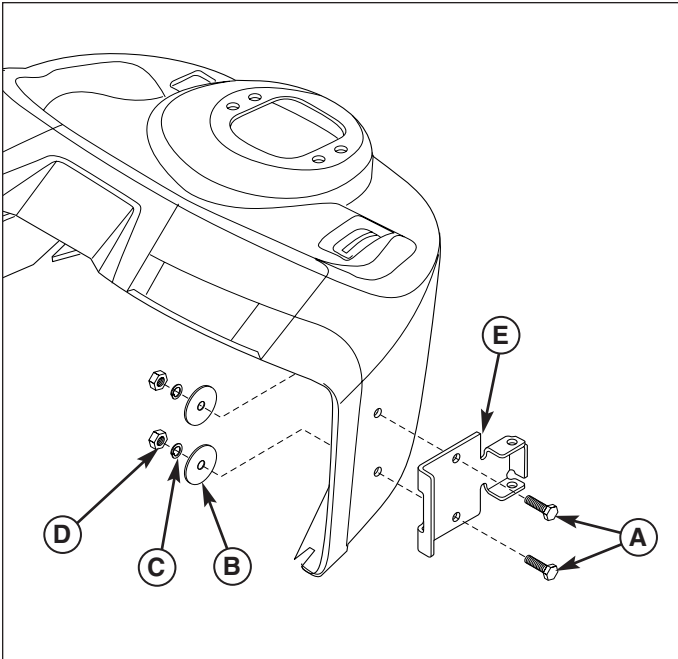

**Figure 19. Deflector Control Cable Support Arm**
1. Assemble the deflector control cable support arm (A, Figure 19) to the left side of the snowthrower using one 5/16-18 x 1" carriage bolt (B), lockwasher, and nut (C) using the holes shown.